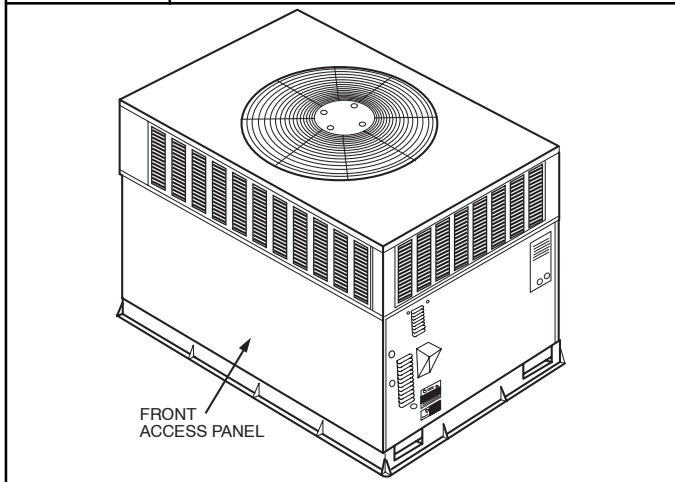

FIGURE 18
2. Remove the 11 screws holding the flue collector box cover (see Figure 18) to the heat exchanger assembly. Inspect the heat exchangers.
Unit is equipped with a direct spark ignition 100 percent lockout system. Ignition module is located in the control box (see Figure 18). Module contains a self-diagnostic LED. During servicing, refer to Table 5 or unit label diagram for LED interpretation.
7. Remove the mounting screw that attaches the burner rack to the unit base (see Figure 18).
8. Slide the burner rack out of the unit (see Figures 18 and 20).